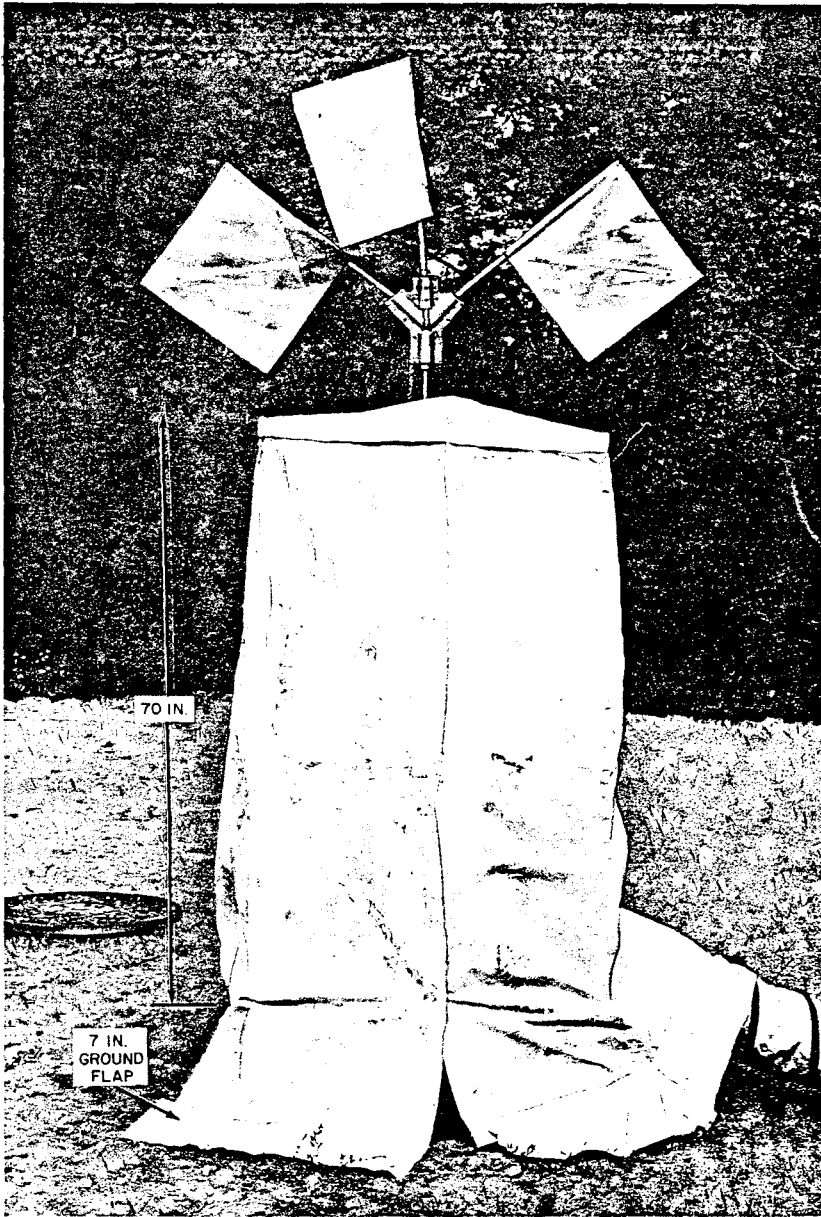

Fig. 1—Manhole Tent With Flaps Closed
- 2.01 The Manhole Tent (Fig. 1) consists of a cover and two pipe assemblies.